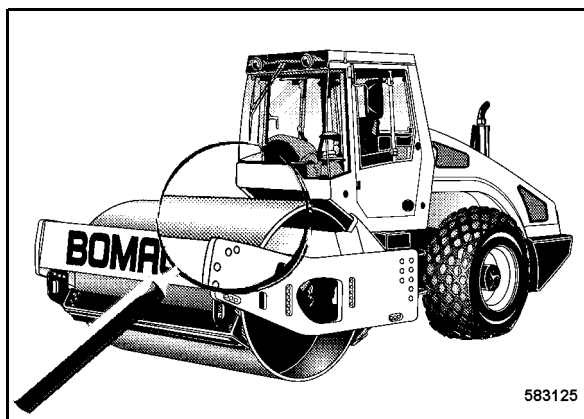

Fig. 192
- Clean the machine (Fig. 192) thoroughly at least once per week.